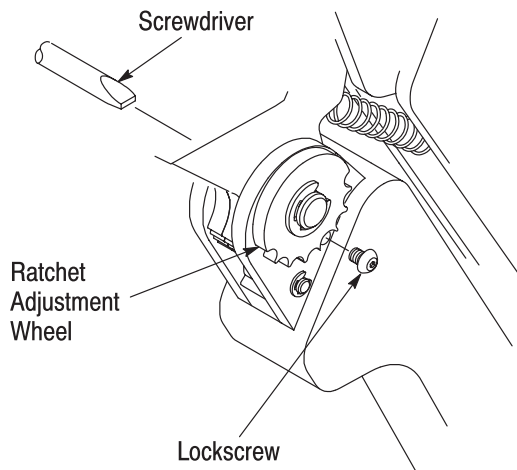

Figure 7
7. RATCHET (Crimp Height) ADJUSTMENT (Figure 7)